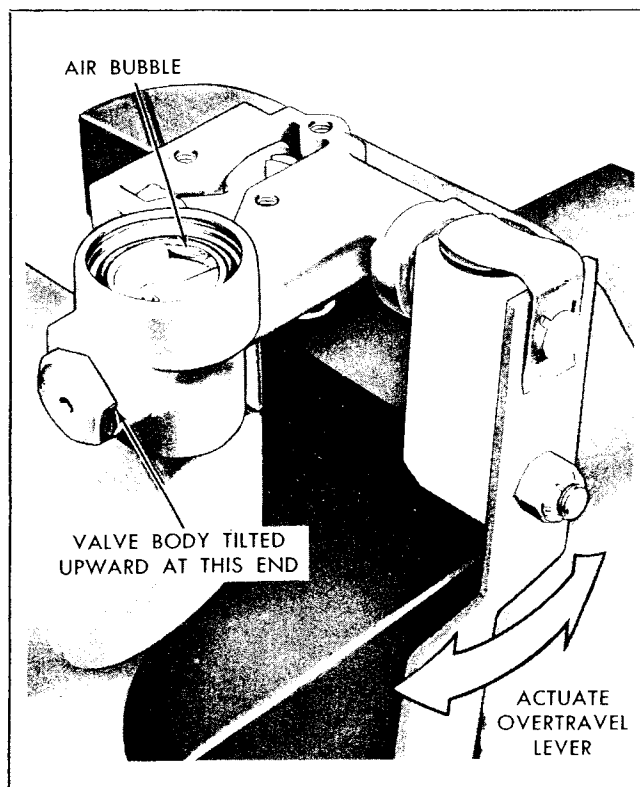
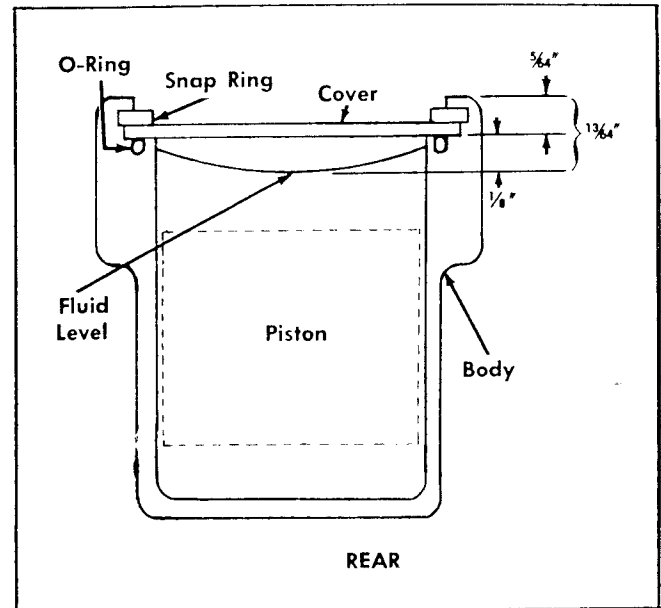

Figure 12-12: Venting Air From Silicone Fluid
Figure 12-13: Measuring Silicone Fluid Level
- (1) Place new O-ring over delay plug and install plug. Tighten to 20-30 inch-pounds torque.
- (2) Pour 5.5 CC $\pm$ 0.25 CC of Silicone fluid (750 Centistokes Viscosity at 25° C) into delay piston chamber. With valve body tilted slightly as shown in Figure 12-12 carefully operate overtravel lever fore and aft to vent air from fluid. When all air has been expelled from piston pin cavity, check fluid level using depth gauge as shown in Figure 12-13.